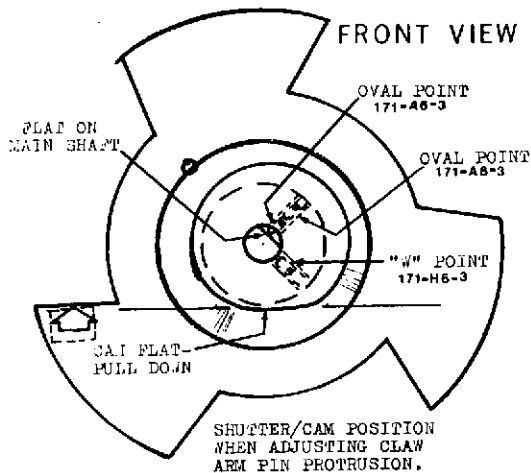

Figure 3-32. SHUTTER & SHAFT ALIGNMENT
- (6). Remove jack screw and loosen two other screws as shown (Fig. 3-32). Position gage with bottom (No-Go) step aligned with top pin (protruded and started down). With firm finger grip on shutter, 1/16" allen wrench in setscrew on flat . . . . press shutter forward. Observe meter. When pins make contact, ease off finger grip. When contact breaks, tighten setscrew.
- (7). Check "Go" position (step 5) and repeat if necessary.
- (8). Tighten and replace all screws when acceptable.